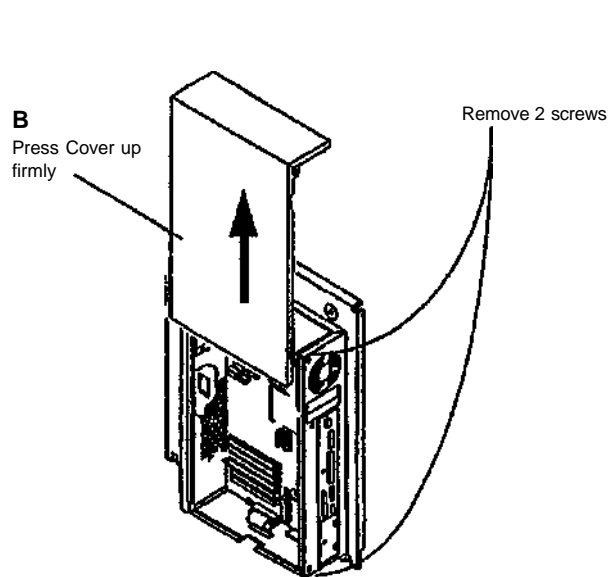

Figure 2 Removing the 8830 Controller Cover
3. (Figure 2): Remove the 8830 Controller Cover (if not already removed).